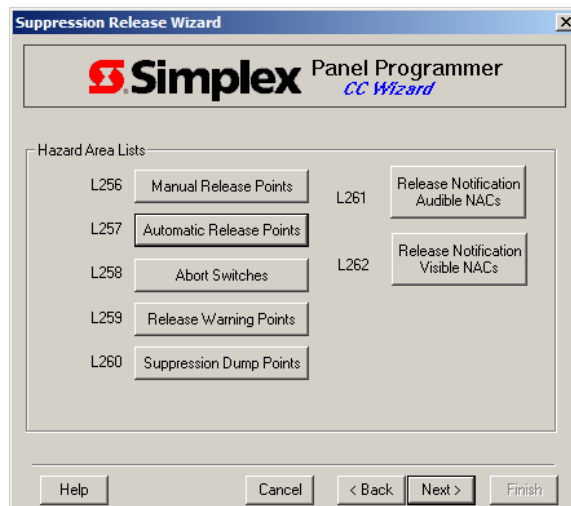

Figure 9-34. Tag List Buttons
The next screen, shown in Figure 9-34, contains seven buttons, each corresponding to one of the suppression-release system lists. Points are automatically assigned to the appropriate list based on the suppression release point type assigned to the point.
3. Click **OK** when you are finished selecting points. The screen containing the Tag List buttons (Figure 9-34) reappears. Click **Next** when all points associated with this hazard area have been chosen.